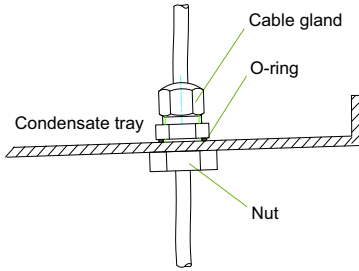

Fig. 1.8:
- 1) Drill a Ø 16 mm hole for an additional cable gland into the condensate tray close to an existing cable feedthrough and attach the supplied strain relief (see Fig.1.8 on pag. 3)